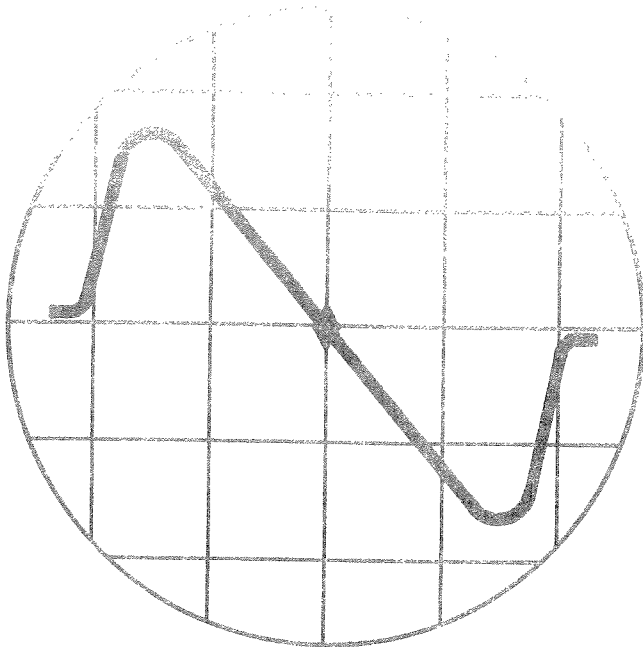

Fig. 4.9 - "3" Type Sound Discriminator Response Curve
d. Fig. 4.9 represents a typical picture IF response curve with various frequencies marked. Note particularly that the picture frequency is not on the peak of the response, but is located 40 to 50% down the slope. This is necessary owing to the nature of television transmission in the United States. Vestigial side band transmission, where one complete side band and a portion of the other is used. Since the small portion of the lower side band that is transmitted duplicates information, provisions must be made in the receiver to de-emphasize this repetition. For that reason, the video carrier does not ride in at a maximum on the response of the set.
g. For the final adjustment of the discriminator, a sweep signal is best used and a discriminator response curve obtained. Set the "Frequency Adjustment" and the "Range Selector" to the proper frequency for the sound channel, and use the "Int. Marker" as described in the video alignment section. Adjust the primary and secondary of the discriminator until the pattern looks like Fig. 4.9. For best results, the two humps are symmetrical about the marker when it is set for the center frequency of the sound IF. This adjustment should be made so that the two peaks are of maximum amplitude and come in at marker frequencies specified by the manufacturer.